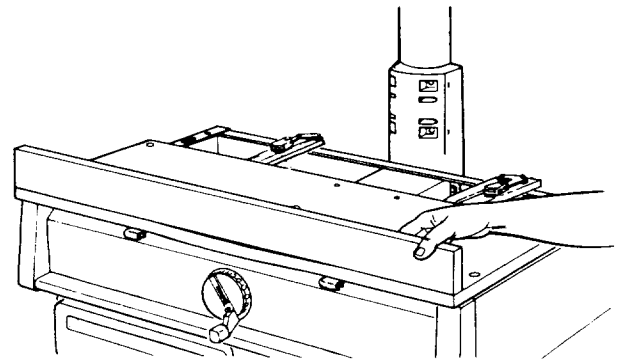

Fig. 80
22. If you see a gap larger than 1/32 inch, tighten the center *mounting screw* and/or the *leveling screws* until the gap is gone. Use a 1/8 inch hex-"L" wrench to tighten the *leveling screws*. (Figure 80)